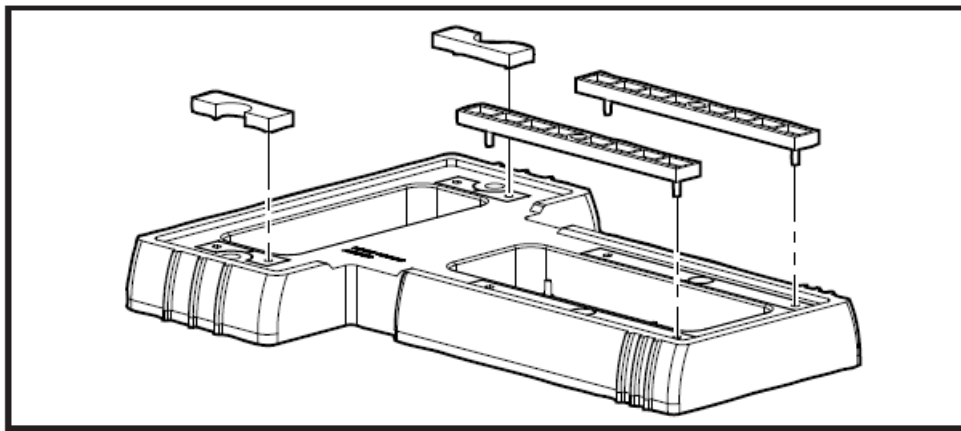

Figure 7. Snap Spacers into Place
3. Align the pins in the four spacers with the holes in the base. Snap the spacers into place (Fig. 7).